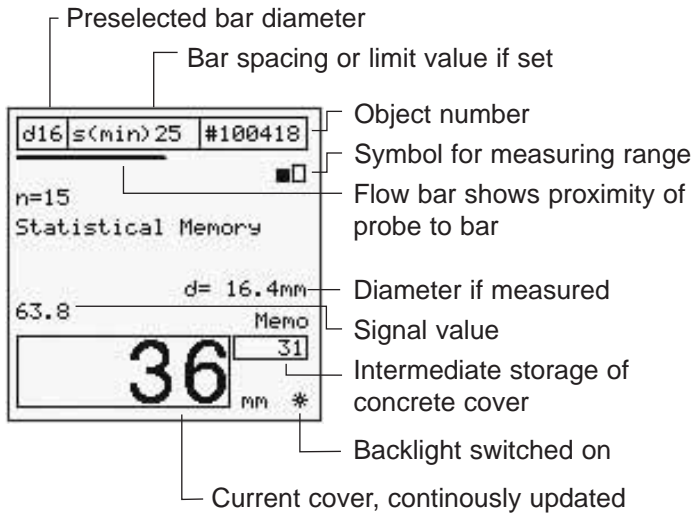

Fig. 5.1 Measuring display «Statistics»
Then the measuring display of the previously measured object appears (Fig. 5.1, Fig. 5.7 and Fig. 5.13)
- Enter the bar spacing under the menu option «Neighb. Bar Corr.» if the correction is required. The set limit value is not displayed in this case (see Fig. 5.1).